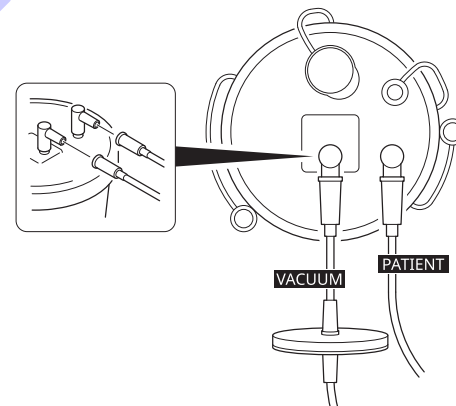

Figure 88 – Suction Canister Tubing Connections
1. Connect the suction tube connector marked VACUUM to the suction canister port marked VACUUM (Figure 88).